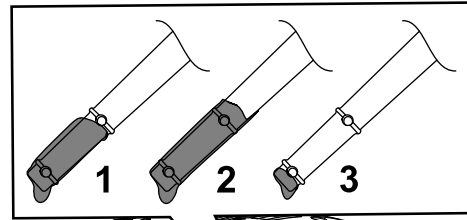

Figure 7
6. Read the oil level on the dipstick (Figure 7).
3. Remove the dipstick (Figure 7) and pour about 3/4 of the crankcase capacity of the specified oil into the oil-fill tube.